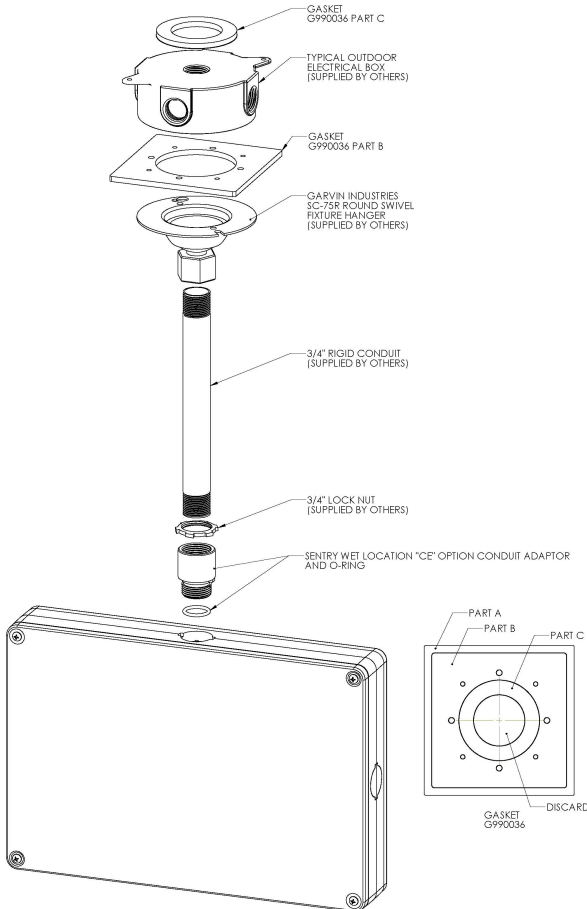

FIGURE 10: WET LOCATION HANG-STRAIGHT PENDANT ASSEMBLY
1. Using supplied G990036 gasket, assemble and install the outdoor electrical box, Garvin industries SC-75R round swivel fixture hanger and 3/4" rigid conduit. **(All supplied by others except for G990036 gasket). (As shown in Figure 10).**